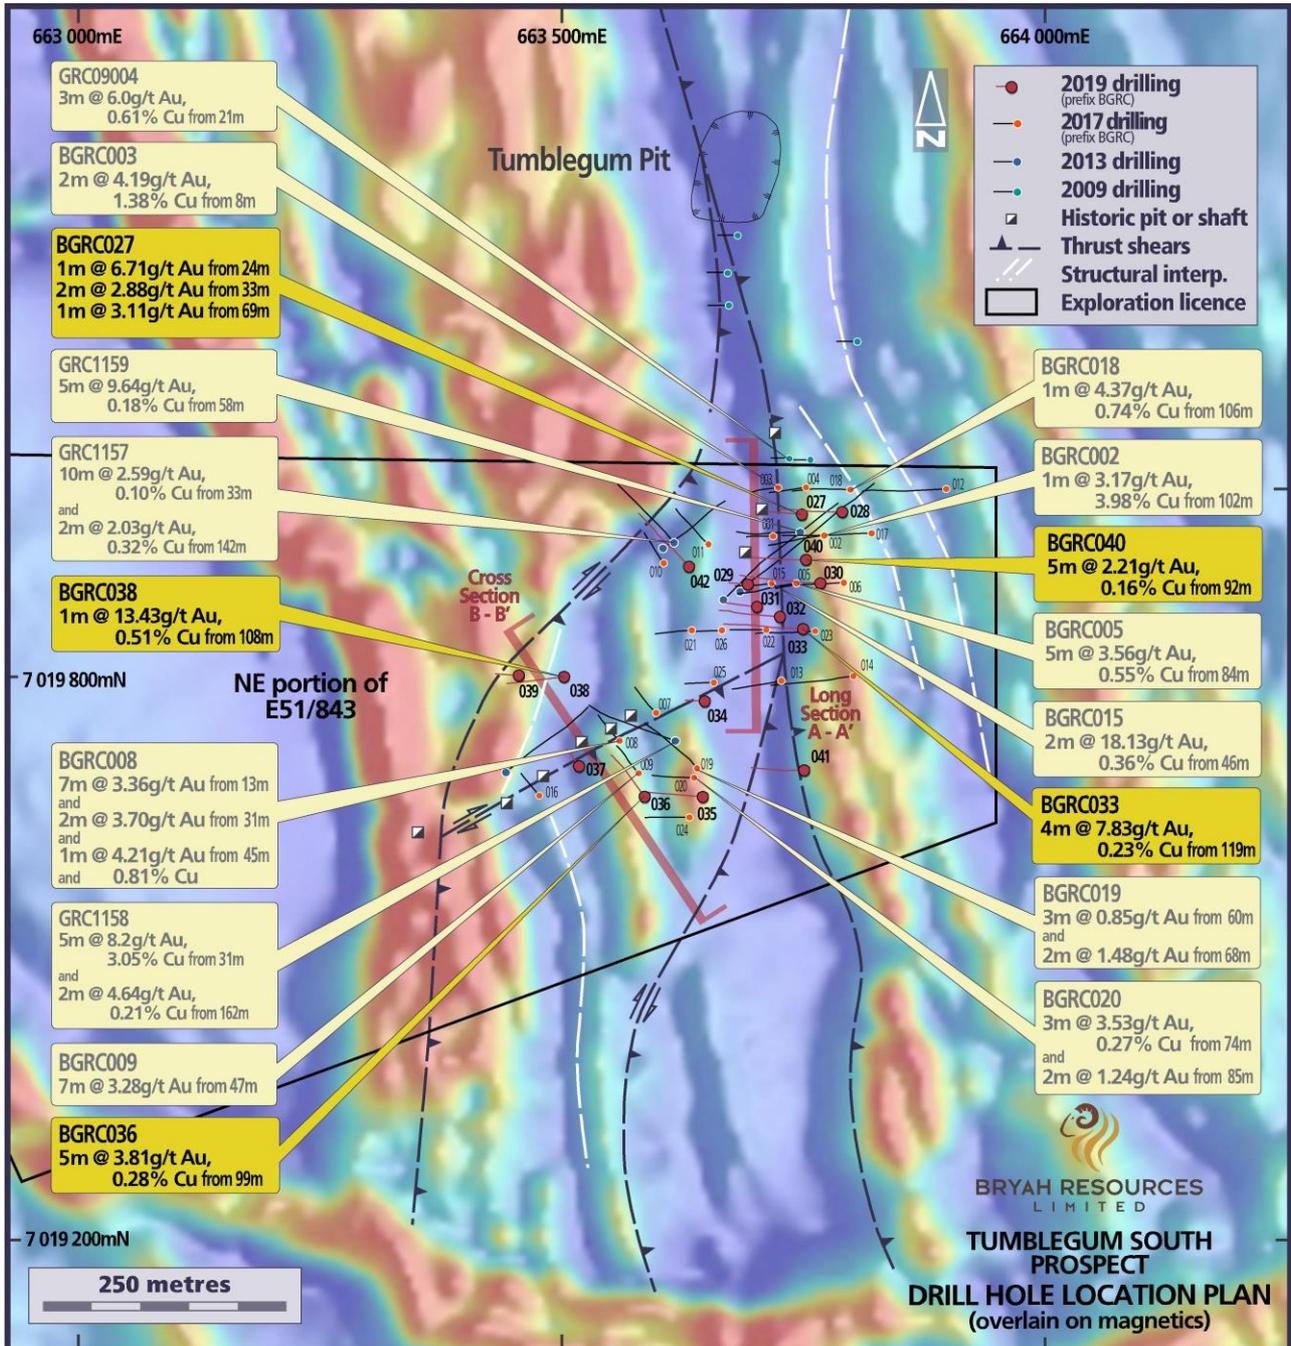
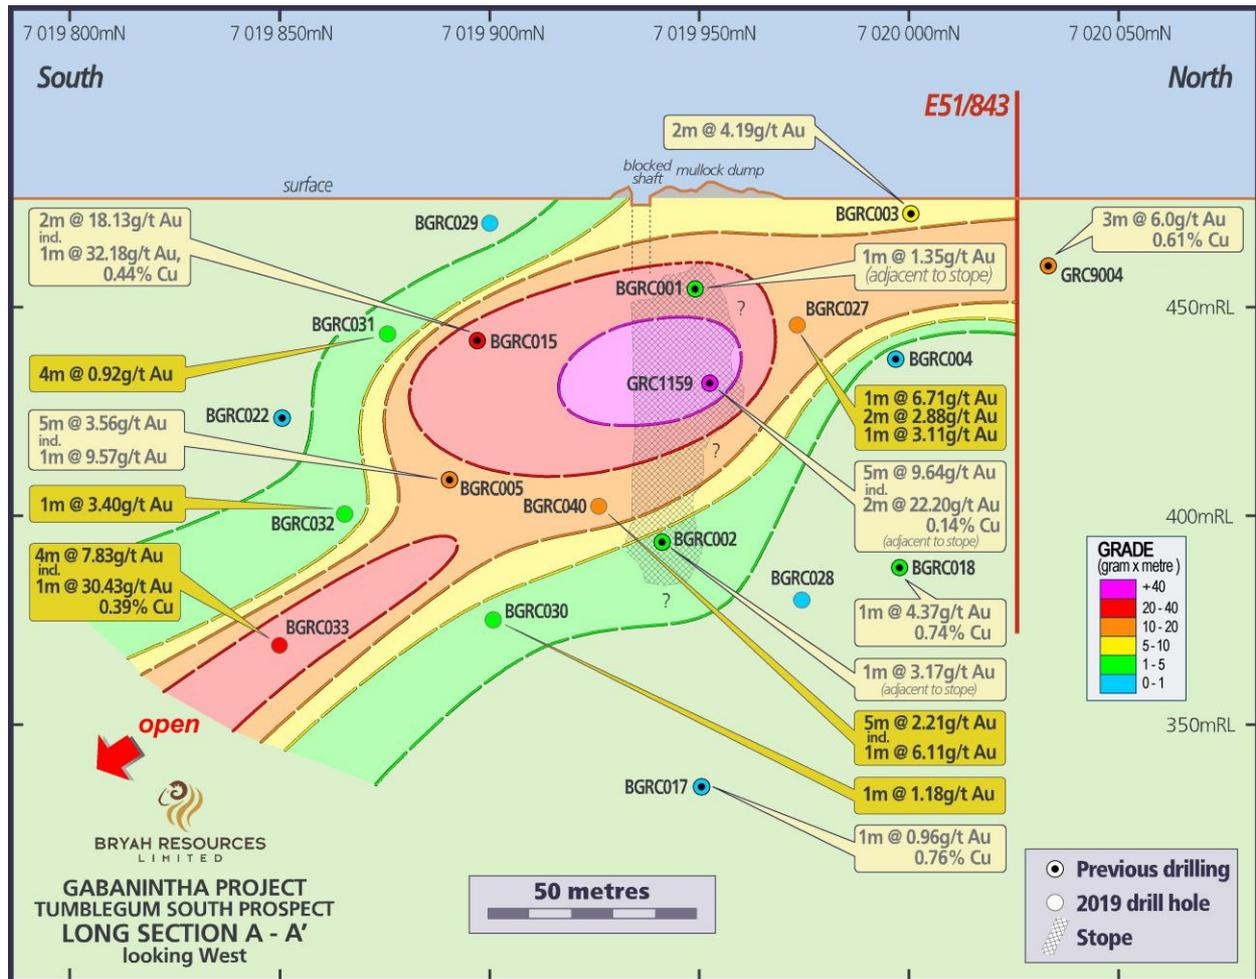

Figure 2 – Drill Hole Location Plan
Figure 3 – Long Section A – A'
A total of 16 reverse circulation (RC) drill holes for 1,582 metres were completed in the drilling program in October 2019. A full schedule of significant laboratory results is shown in Table 2 with selected results shown on Figure 2 and in sections in Figures 3 - 4.
Holes BGRC027-033 and BGRC040 were drilled to test the significant north-south orientated shear zone, which was considered to have a southerly plunge component to the mineralisation. The complete assay results from this drilling confirm this southerly plunge of gold mineralisation. Significantly, holes GRC1159, BGRC005, 015, 027, 033 and 040 have all recorded high-grade gold intercepts of between 6.11 g/t Au (BGRC040) and 32.18 g/t Au (BGRC015) over 1-2 metre intervals, within broader zones of gold mineralisation (see Figure 3).